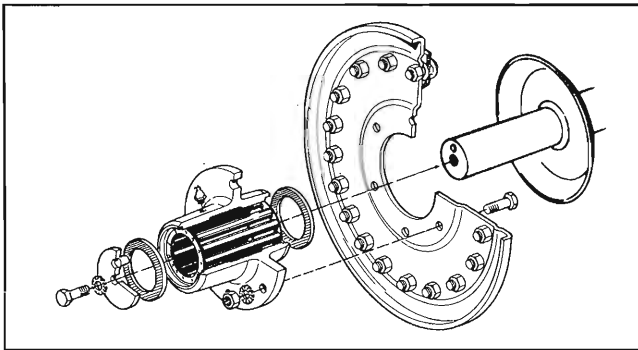

Fig. 5: Finger Wheel Before Serial #2578
7. Disassemble the Finger Wheel Hubs (Fig. 5 or 6) from the Carriers and mount them to the Finger Wheels with the (6) Bolts provided.
NOTE: The Reinforcing Flanges of the Finger Wheel Hubs **MUST** be properly oriented to be on the side opposite the force of the crop as shown in either Fig. 5 or 6. This is necessary to insure proper support and to help prevent the Bolt Heads from fatiguing the Wheel Reinforcing Flanges. With the Wheel correctly oriented, push the Finger Wheel and Bearings onto the Finger Wheel Support.
- 8a. For a WR204 Rake before Serial #2578, **BE SURE** to install a Filling Ring on each side of the assembly as shown in Fig. 5. The Closing Ring **MUST** also be correctly positioned and assembled so that the small alignment dimple fits into a mating recess on the Axle Shaft to prevent the Closing Ring from turning. Attach and secure the Ring with the 10 mm Bolt provided.